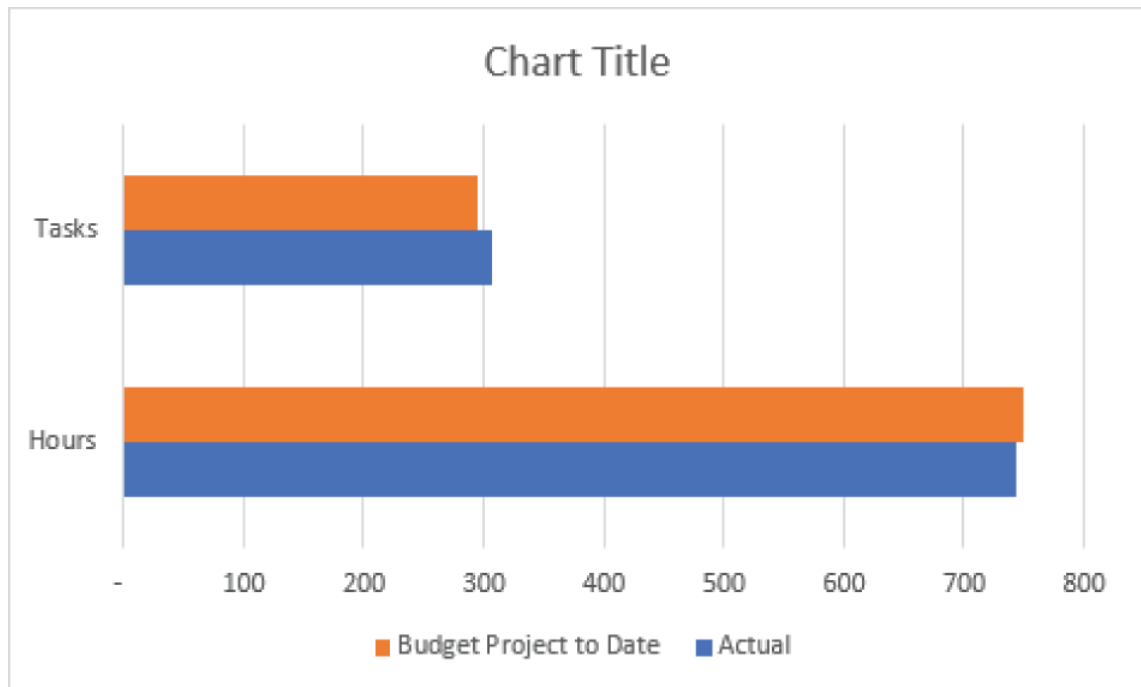

Figure 2.6: An intermediate hours bar chart
4. Select the Total series and click the Remove button. Figure 2.5 shows the Select Data Source dialog after these changes and Figure 2.6 shows the chart at this stage.